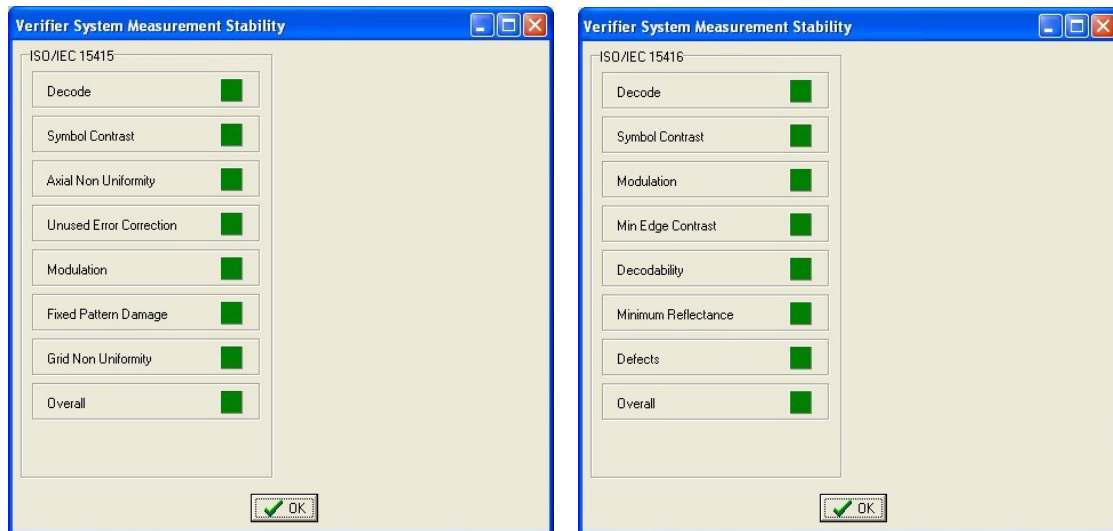

Figure 8 - ISO/IEC 15415 And ISO/IEC 15416 Measurement Stability windows
8. After the final rotation and trigger, the Verifier System Measurement Stability window related to the enabled Standard is shown (see Figure 8 and Figure 9).